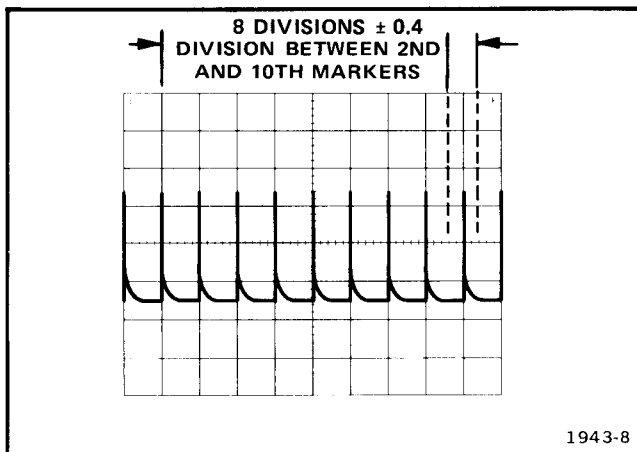

Fig. 5-8. Magnified SEC/DIV accuracy.
- b. CHECK—Magnified B SEC/DIV within 5% (+20°C to +30°C) over center 8 divisions displayed (see Fig. 5-8) using equipment settings given in Table 5-8 (accuracy applied over entire magnified sweep length except as noted in Table 5-8).
d. CHECK—Magnified A SEC/DIV within 5% (+20°C to +30°C) over center 8 divisions displayed (see Fig. 5-8) using equipment settings given in Table 5-8 (accuracy applies over entire magnified sweep length except as noted in Table 5-8).